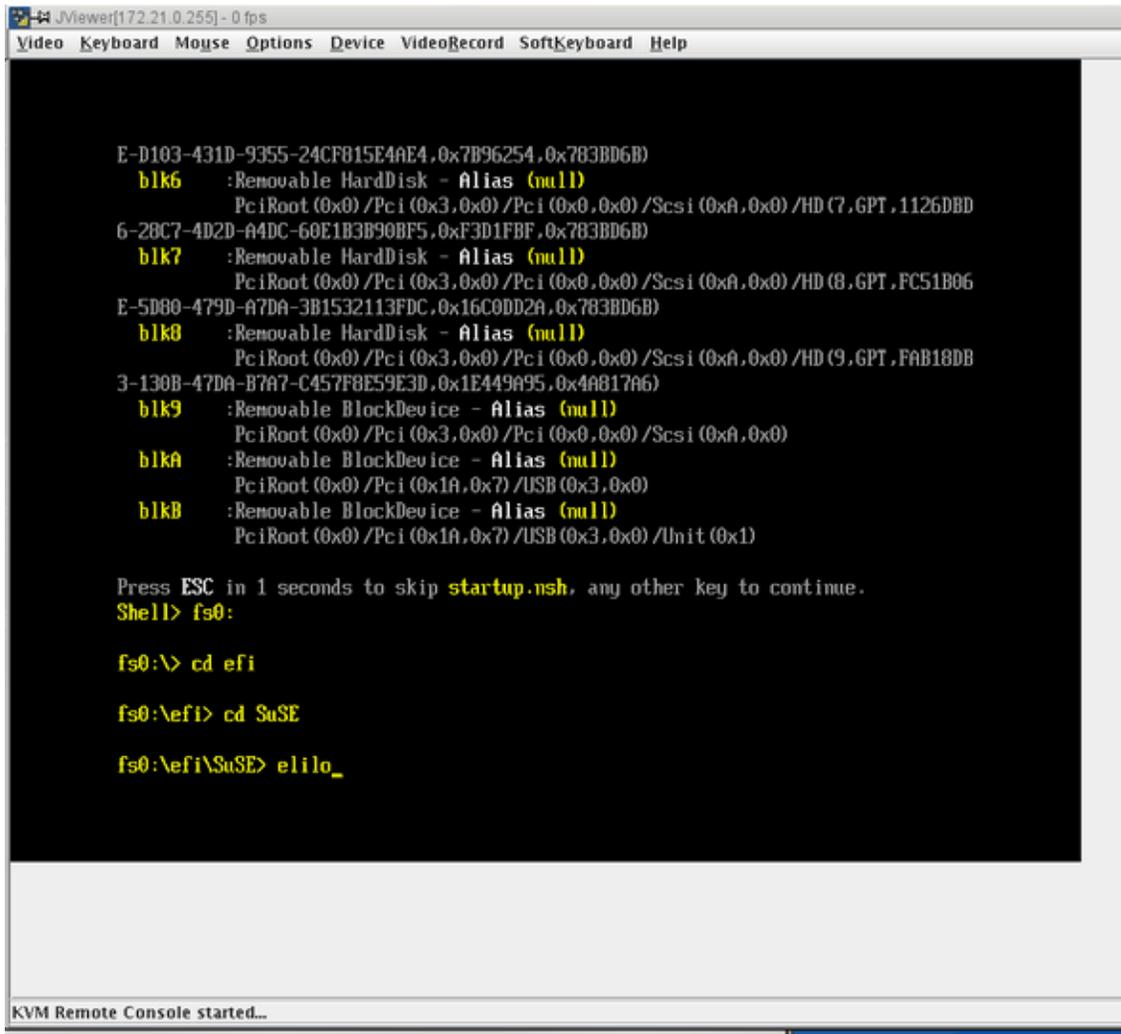

Figure 3-9 Booting the Operating System from the JViewer Shell> Prompt Screen
12. From the **Shell>** prompt issue the following commands, as shown in Figure 3-9 on page 46: